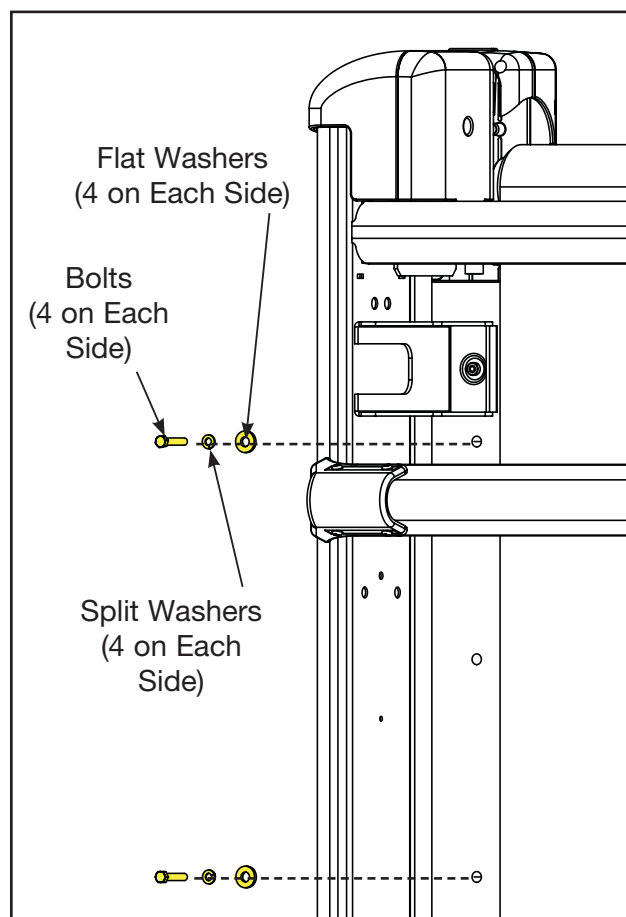

Figure 5
- Using a 7/16" socket wrench, remove the four bolts, split washers and flat washers that hold one of the top platforms in place. Repeat this step for the other side. See Figure 5.
- B. Using a 7/16" socket wrench, install the four bolts, split washers and flat washers that hold one of the top platforms in place. Repeat this step for the other side. See Figure 5.